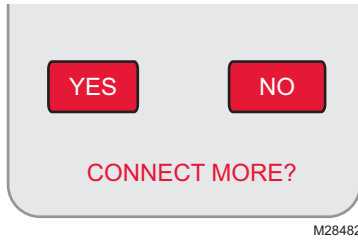

Fig. 47. Connect additional thermostats to Portable Comfort Control.
3. Press “No” at the next screen to save and exit, or press “Yes” if you need to connect additional thermostats to the Portable Comfort Control. See Fig. 47.